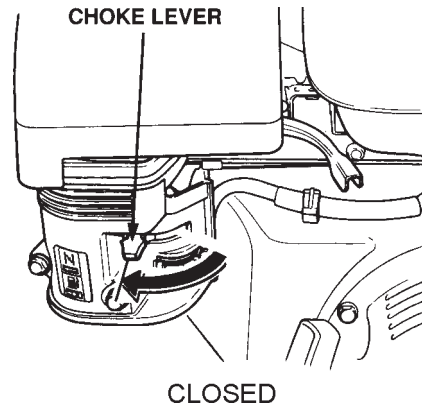

Figure 15. Engine Choke Lever (Closed)
4. Place the **choke lever** (Figure 15) in the "**CLOSED**" position if starting a **warm engine** or the **temperature is warm**.